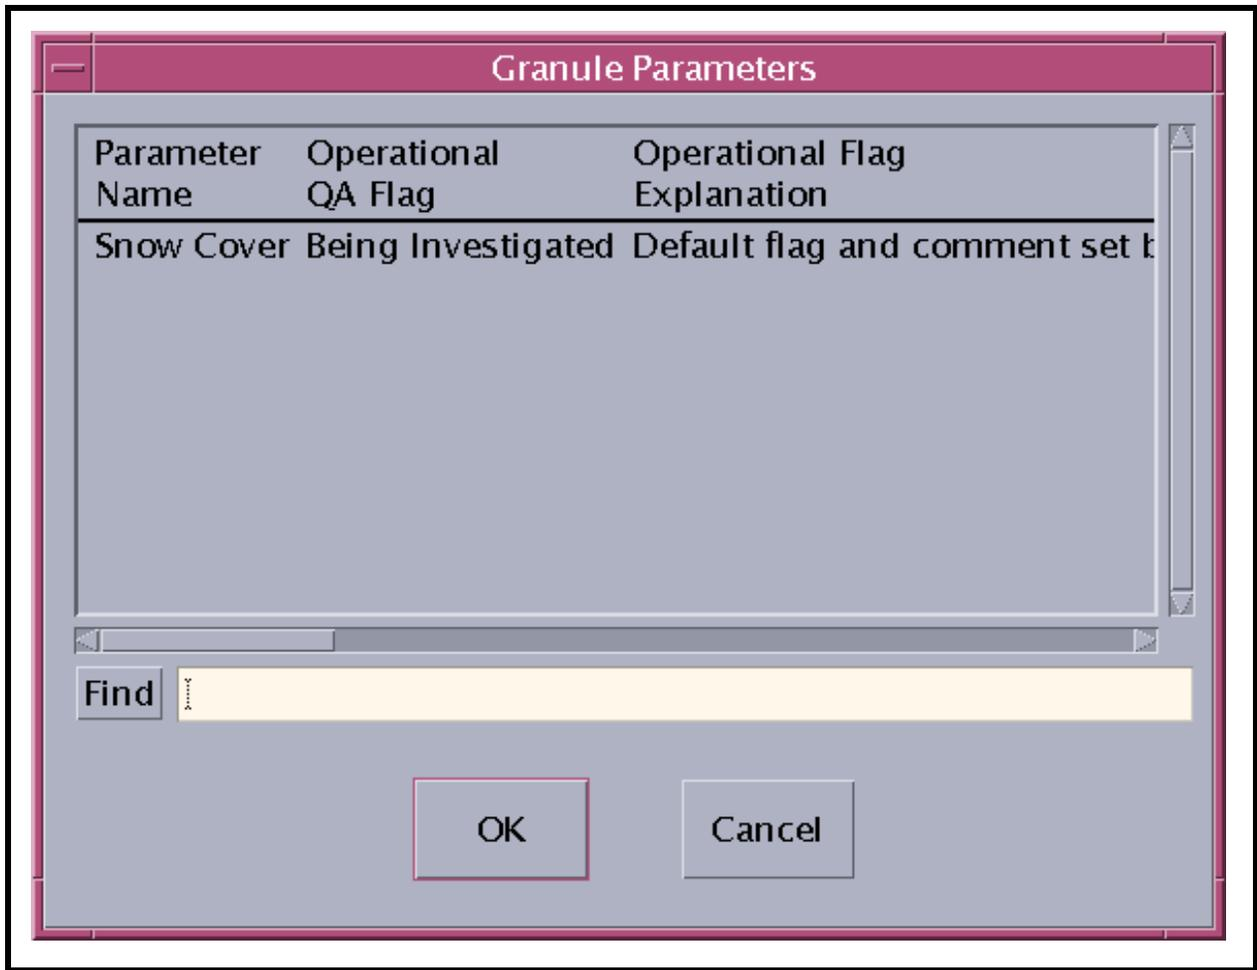

Figure 83. QA Monitor Granule Parameters Window
- The **Granule Parameters** window (Figure 83) is displayed.